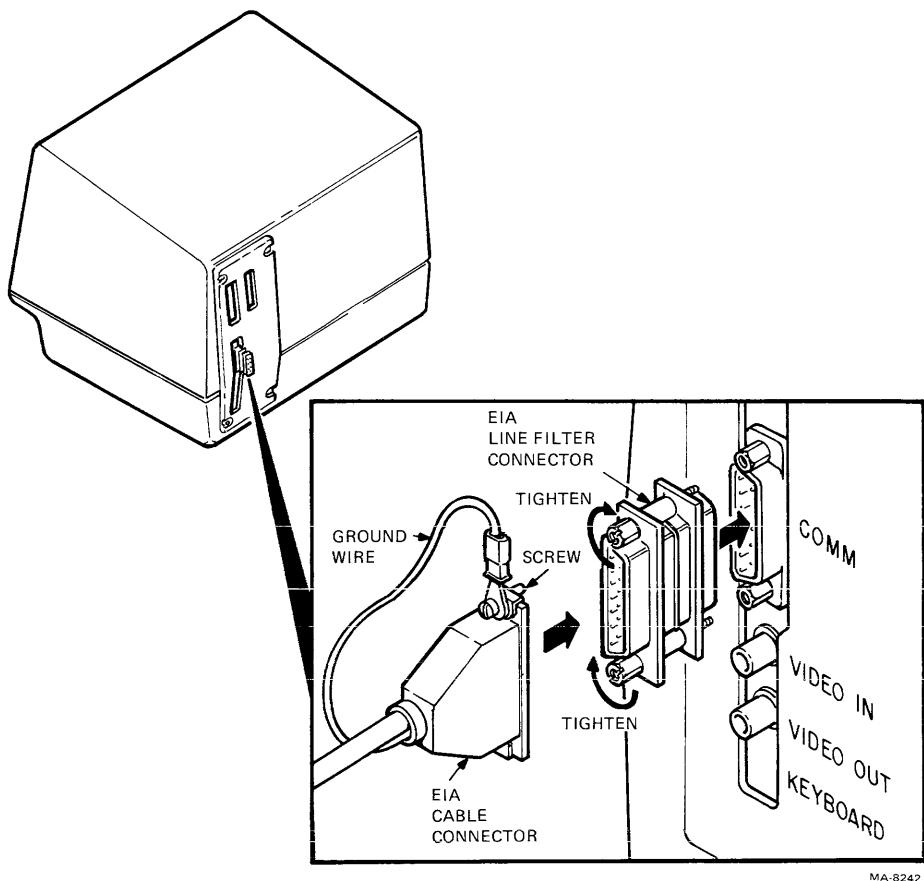

Figure 8-3 Interface Cable Connection
10. Connect the communication cable to the appropriate connector at the back of the terminal. If using the EIA interface, install the EIA line filter connector (see note) with a 5 mm (3/16 in) screwdriver (Figure 8-3.) Then fasten the cable connector to the terminal tightening the captive screws with a 3 mm (1/8 in) blade screwdriver. Be sure to attach the cable ground wire to one of the captive screws. (Refer to Chapter 5 for information about connector use and signal/pin definitions.)